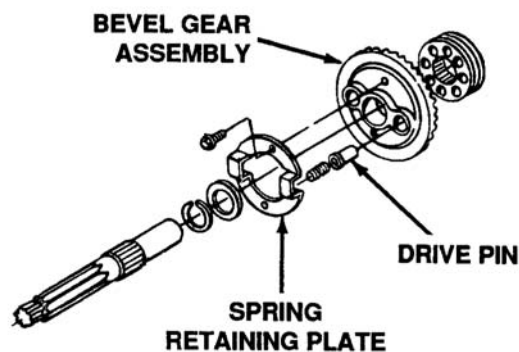

Figure 5-16. Removing Spring Retaining Plate
18. Remove the two bolts holding the spring retaining plate to the bevel gear. See Figure 5-16.